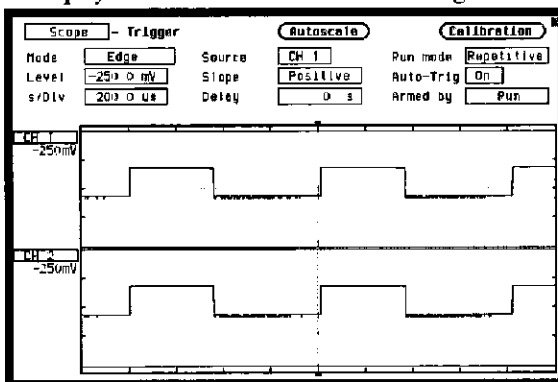

Figure 25-9. Marker Measurement Setup Display
6. Select the Waveforms menu and toggle Connect dots field to on. The displayed waveform should now look like figure 25-9.